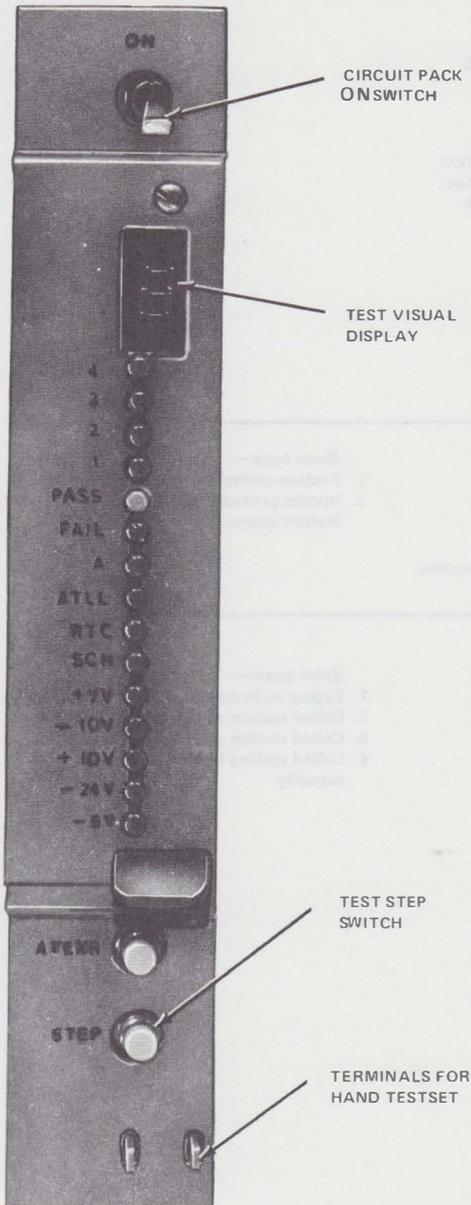
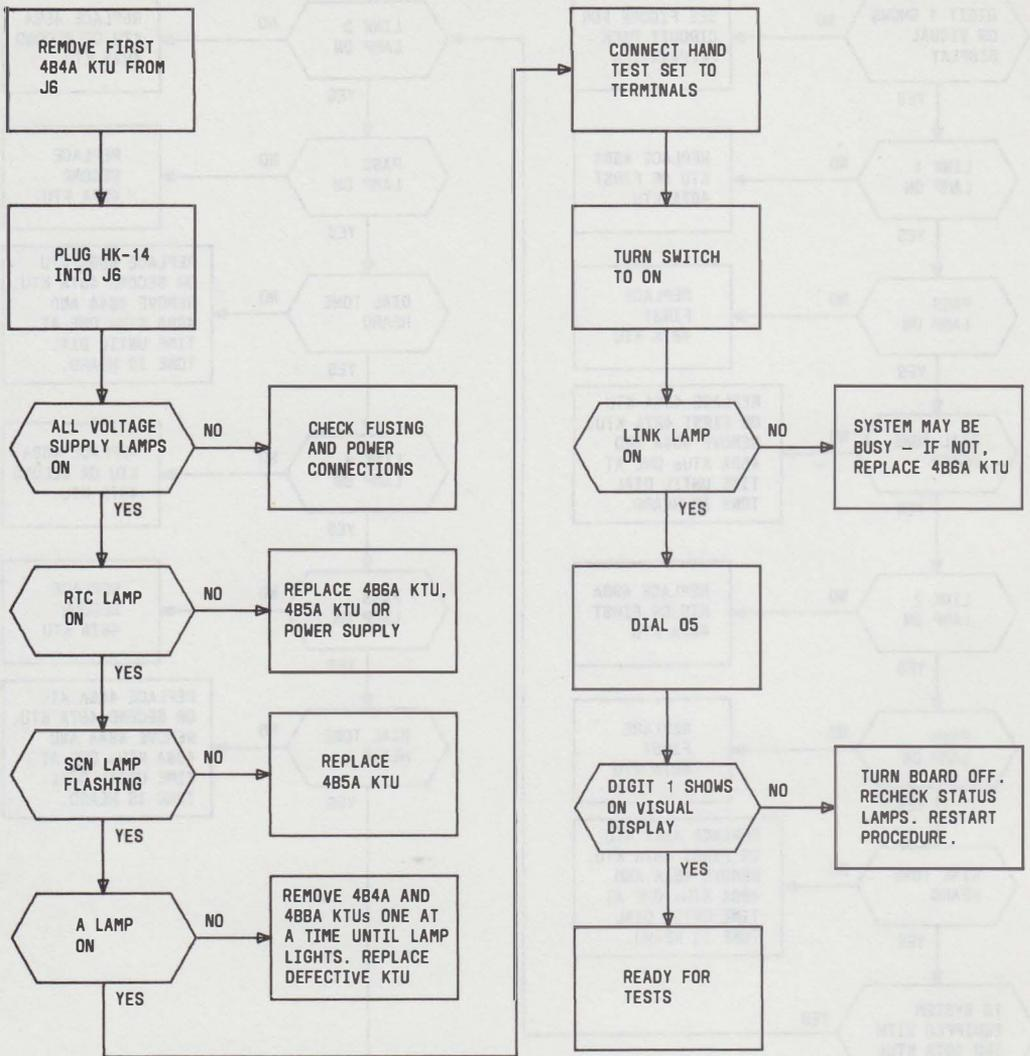

Fig. 8—HK-14 Circuit Pack Faceplate
Fig. 19—HK-14 Diagnostic Circuit Pack Preparation
6.04 These tests require the use of the optional HK-14 circuit pack (Fig. 8) and a 1013-type hand test set. Maintenance operations involving the HK-14 circuit pack should be performed by 2nd-tier maintenance personnel only. Using the test sequences, the status of the major signaling busses and the system power for all links can be tested. Visual signals are provided on the circuit pack and audible tones heard in the hand test set.
2 and if provided, links 3 and 4. The test will then be repeated unless the STEP switch is depressed or the circuit pack turned off. If the STEP switch is depressed, the circuit pack will make the next test of each link in sequence. The test being made is displayed visually (Fig. 8). If it is desired to make a particular test, the circuit pack must be stepped until the proper digit or letter is displayed. Refer to Table P and Fig. 19 through 30 for the circuit pack preparation sequence and the individual test sequences.